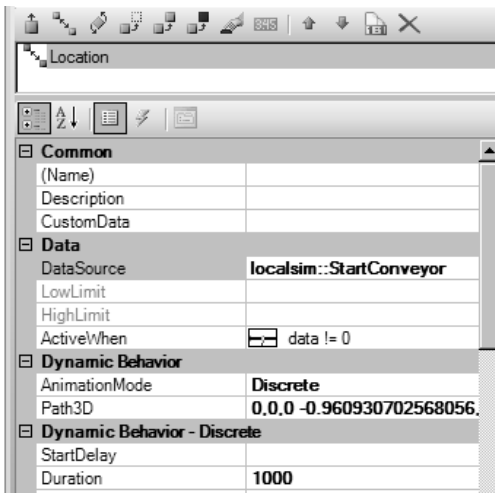

Figure L6.10 - Location Dynamics Properties
7. For each of the bottles, add a Location dynamic that moves each bottle to the next bottle's position. For all of these dynamics, you should use the same simulated Data Source (let's call it “StartConveyor”). The Animation mode should be Discrete and the Duration should be set to 1000 milliseconds. Figure L6.10 shows the properties of the Location dynamics for one of the bottles. All bottles should have similar dynamic properties.